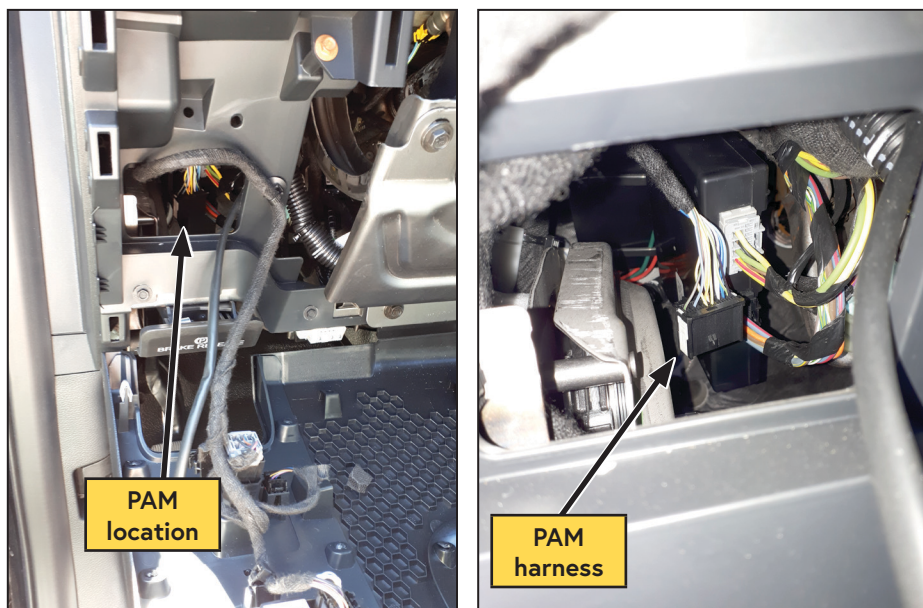

Figure 67 — Parking Assist Control Module (PAM)
- ☐ Locate the Parking Assist Control Module (PAM) (located on the driver side, under the dashboard and above the parking brake). The PAM harness will either be plugged into a blanking plug, or a PAM module (Figure 67).